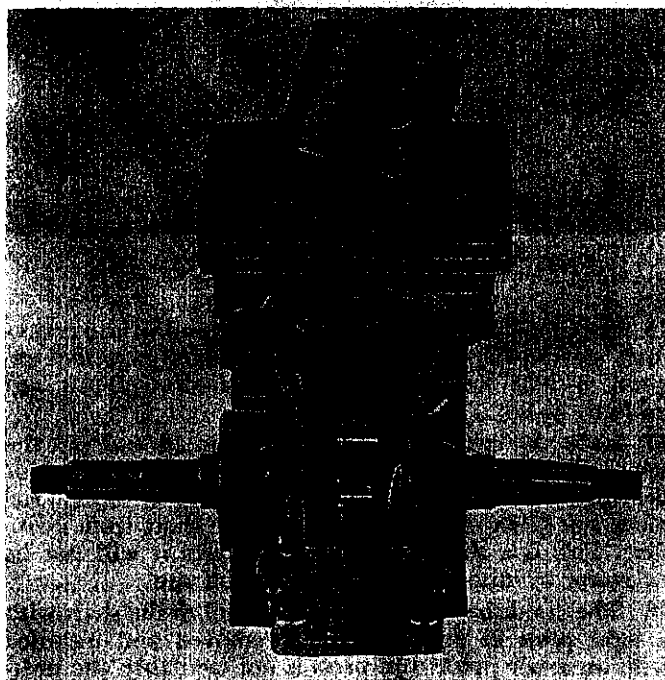

FIGURE 8. REMOVING PISTON
11. Push the piston and connecting rod assembly out of the cylinder as shown in Fig. 8.